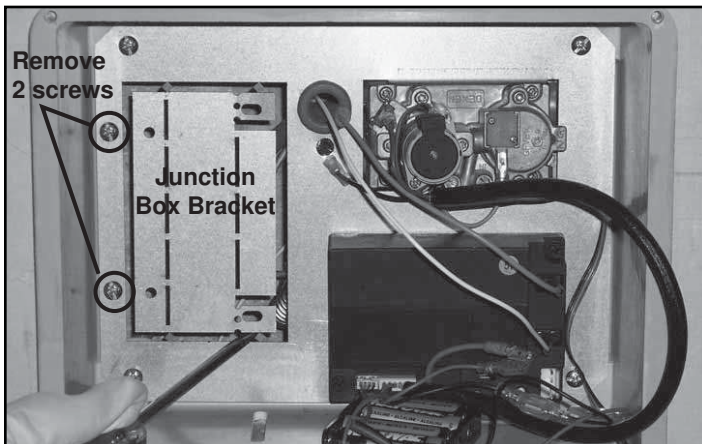
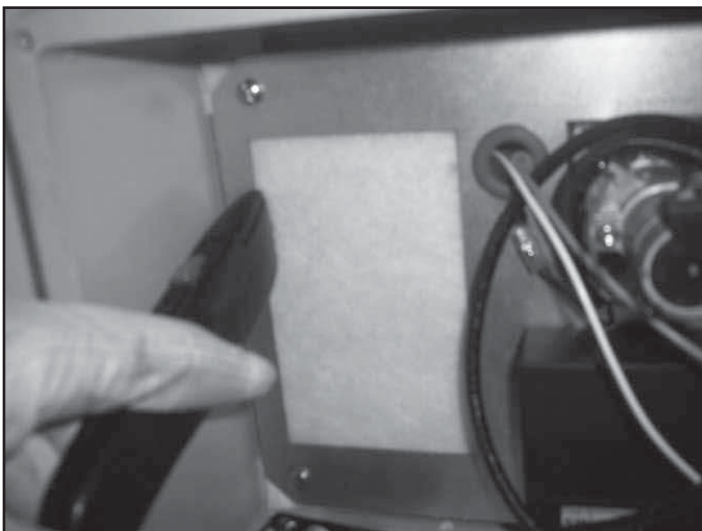

Figure 6.4 Remove Junction Box Bracket & Two Screws
Figure 6.5 Cut and Remove Insulation
- Remove the junction box bracket by prying loose with a screwdriver. Remove the two screws shown in Figure 6.4. Cut out and remove insulation from behind junction box bracket, Figure 6.5.
- Place junction box into the control box, matching holes as shown, and fasten with the two screws removed in Figure 6.4.